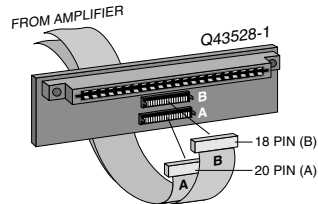

Fig. 3.14 PIP2 Input Adapter Connection
2. Remove the existing PIP module or panel (two screws). For *PIP2™* amplifiers, this may involve disconnecting the PIP from a PIP2 input adapter (see Figures 3.14 and 3.15). If a PIP2 input adapter is already present, do not remove the ribbon cables from the adapter. Otherwise you will have to reconnect them in the next step.
PIP2 Amplifiers: (Requires a PIP2 input adapter. Crown part number Q43528-1.) Connect the PIP2 input adapter to the two input cables of the amplifier (see Figure 3.14). Notice that the PIP2 input adapter should be positioned with the PIP edge connector on top and facing away from the amplifier. The 20 pin cable (A) is connected first then the 18 pin cable (B) is connected. Both ribbon cables should extend below the PIP2 input adapter.